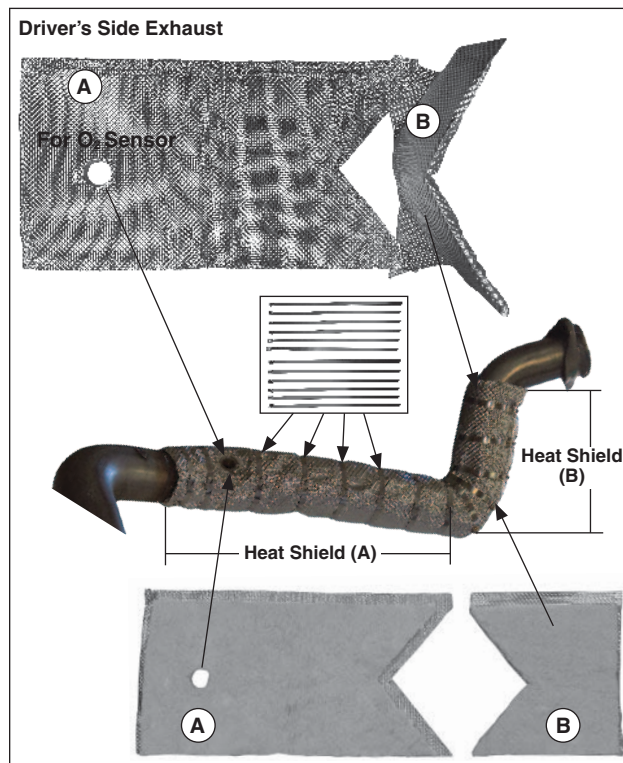

Figure 72
2. Install heat shield (A) with the hole over the O2 sensor.
5. Install (8) clamps as shown in (Fig. 72).
1. Install piece (B) on the downward bend of the exhaust pipe adjacent to heat shield (A).
2. Lap ears of heat shield (B) over the ears of heat shield (A).
3. Seam of heat shield (B) should be facing forward of the truck.
4. Install (4) clamps as shown in (Fig. 72).